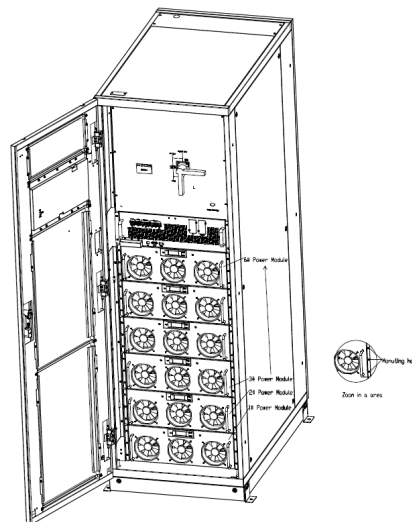

Figure 2-9 Installing power modules
The installation position of power module is shown in Figure 2-9. Please install the power modules from bottom to top to prevent inclination of the cabinet due to high center of gravity. The steps of installing power module are as follows (take VGDII-300K33 for example):
- 4) Fix the module to the cabinet through the mounting holes on two sides of the front plate of the module, as is shown in Figure 2-9.